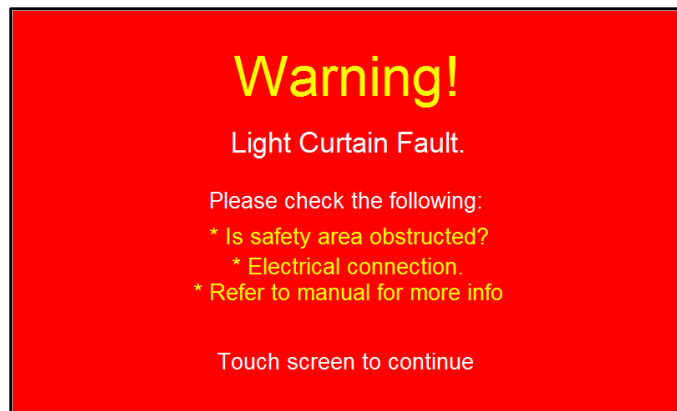

Figure 3-19
**Message ON / OFF button:** If this button is toggled to ON, a message is displayed every time the Light Curtain area is blocked. The message tells operators to check for an obstruction. See Figure 3-19. Remove the obstruction to continue operation. If this button is toggled to OFF, a message will not be displayed when the Light Curtain area is blocked.